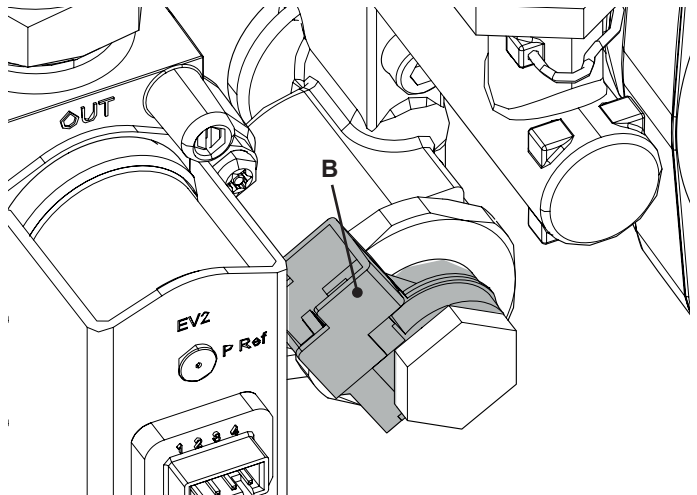
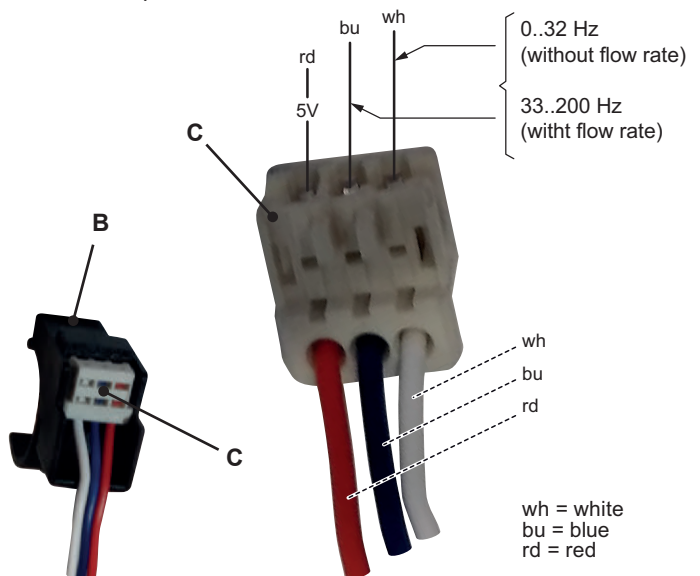

Figure 14.4
Figure 14.5
- 2 Remove the sensor holder "B" (Figure 14.4) and disconnect the connectors "C" (Figure 14.5).